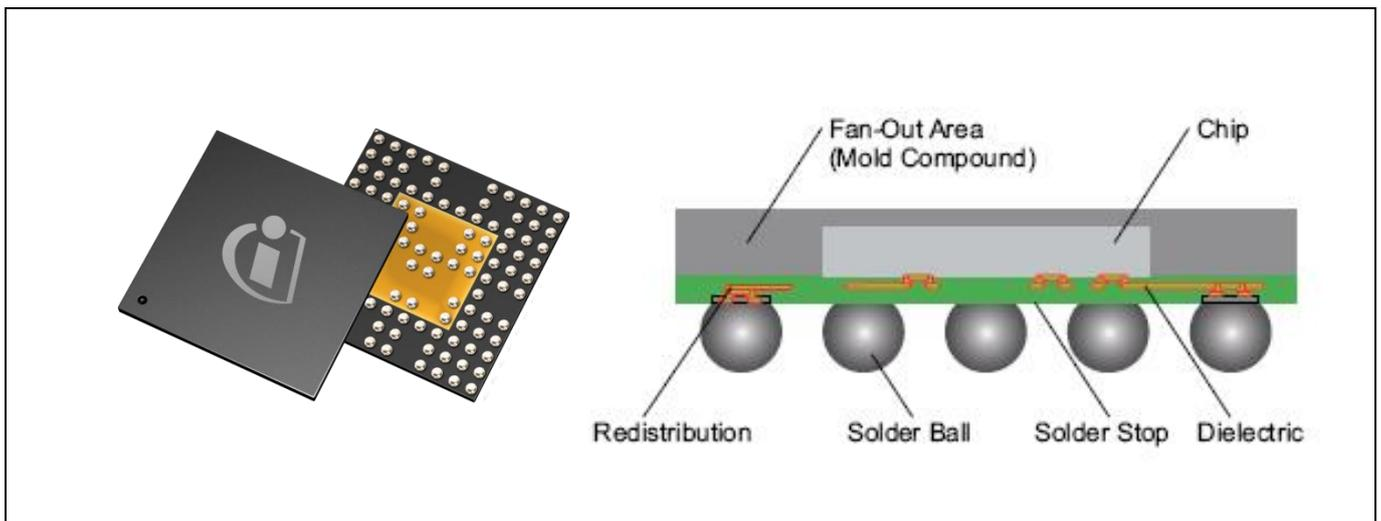

Figure 3 Illustration and schematic cross-section of a PG-WFWLB
- PG-WFWLB (please refer to Figure 3)